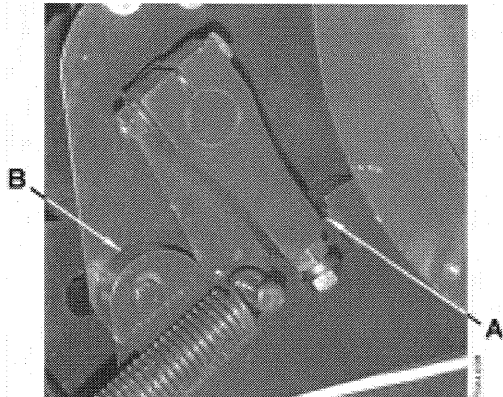

Fig.19
D. Trip the knotter clutch and rotate the clutch. The clutch pawl must have $\frac{1}{8}$ " clearance from the stop lever at "A," Fig. 19. Adjust by loosening the Cam Stop mounting bolt and rotating the Cam Stop "B."